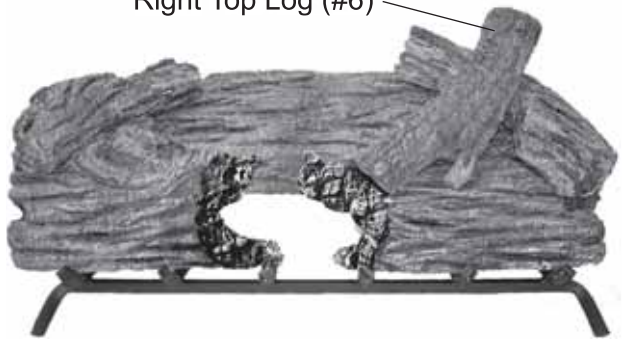

Figure 32 - Installing Right Top Log (#6)
7. Install right top log #6 as shown. *See Figure 32.*